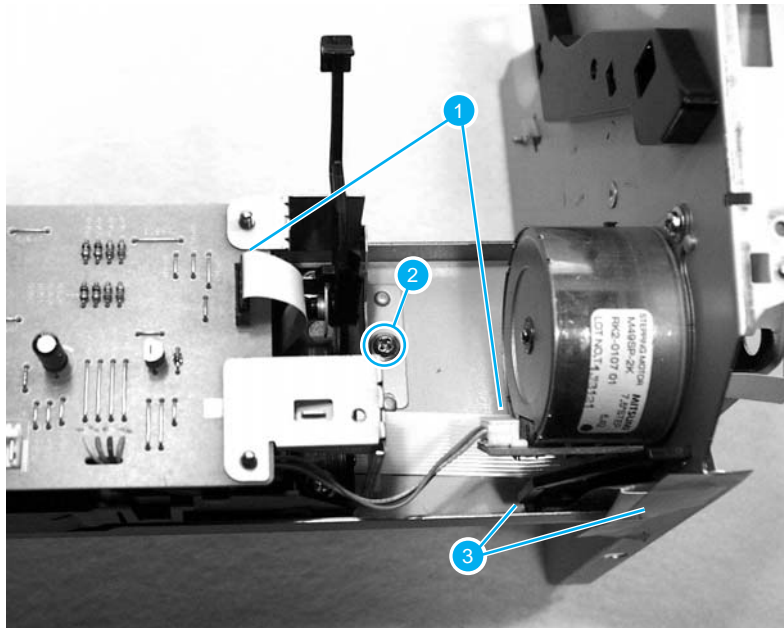

Figure 5-29.
11. Disconnect one ribbon cable and the connector to the step motor (callout 1, figure 5-29). Remove one screw (callout 2, figure 5-29). Remove the plastic retaining clip from the formatter ribbon cable and loosen the tape (callout 3, figure 5-29). As you are removing the ECU, unplug the additional connector going to the laser scanner assembly.